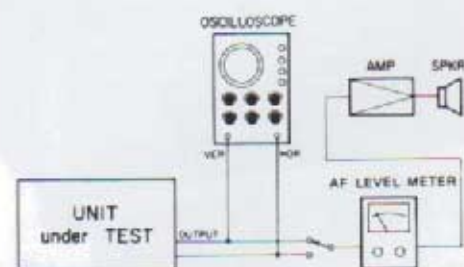

Fig. 9-5-6. Head Azimuth Test Set-Up
3. Connect an AF level meter to the OUTPUT connectors as shown in Fig. 9-5-6.